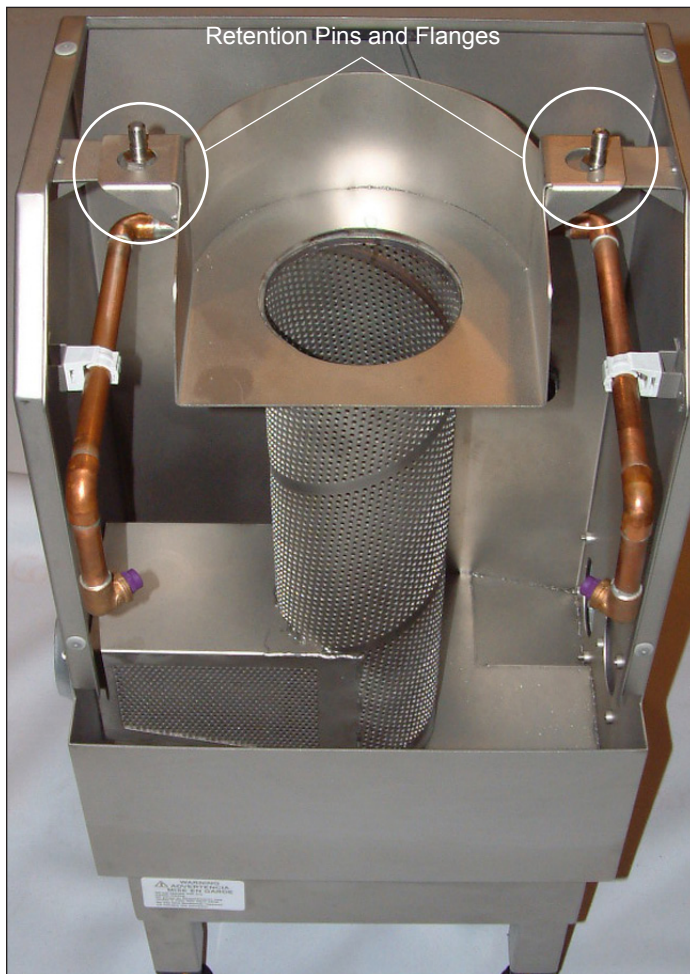

Figure 9. Installing Auger Screen and Auger Assembly
2. Align inlet shoe at base of screen with inlet flange of WasteXpress cabinet and open side of cabinet. Tilt assembly and guide base of screen over auger drive hub in base of cabinet. Push into place with minimal resistance. Flange ears on discharge pan of screen (top) should drop over retention pins and flanges at top of cabinet interior (Figure 9).
25. Align inlet shoe at base of screen with inlet flange of WasteXpress cabinet and open side of cabinet. Tilt assembly and guide base of screen over auger drive hub in base of cabinet. Push into place with minimal resistance. Flange ears on discharge pan of screen (top) should drop over retention pins and flanges at top of cabinet interior (Figure 9).